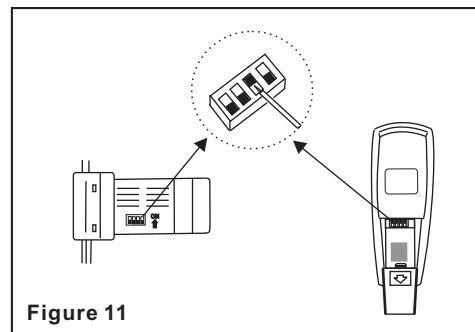

Figure 11
**NOTE:** The Hand Held Remote or Wall Control units included with your ceiling fan are equipped with 16 code combinations to prevent possible interference from or to other remote units. The frequency switches on your Receiver and Transmitter units have been preset at the factory, please re-check to make sure the switches on both units are set to the same positions. The frequency settings should be changed only in case of interference or if a second or more remote controlled ceiling fans are installed in the same structure. Any code combination will operate the ceiling fan and light as long as the Receiver and Transmitter units are set to the same codes (Fig. 11)
**Step 3.** Receiver to House Supply Wires Electrical Connections: Connect the WHITE wire (Neutral) from the outlet box to the WHITE wire marked "AC in N" from the receiver. Connect the BLACK wire (Hot) from the outlet box to the BLACK wire marked "AC in L" from the receiver. Secure all wire connections with the plastic wire nuts provided. (Fig. 11 )